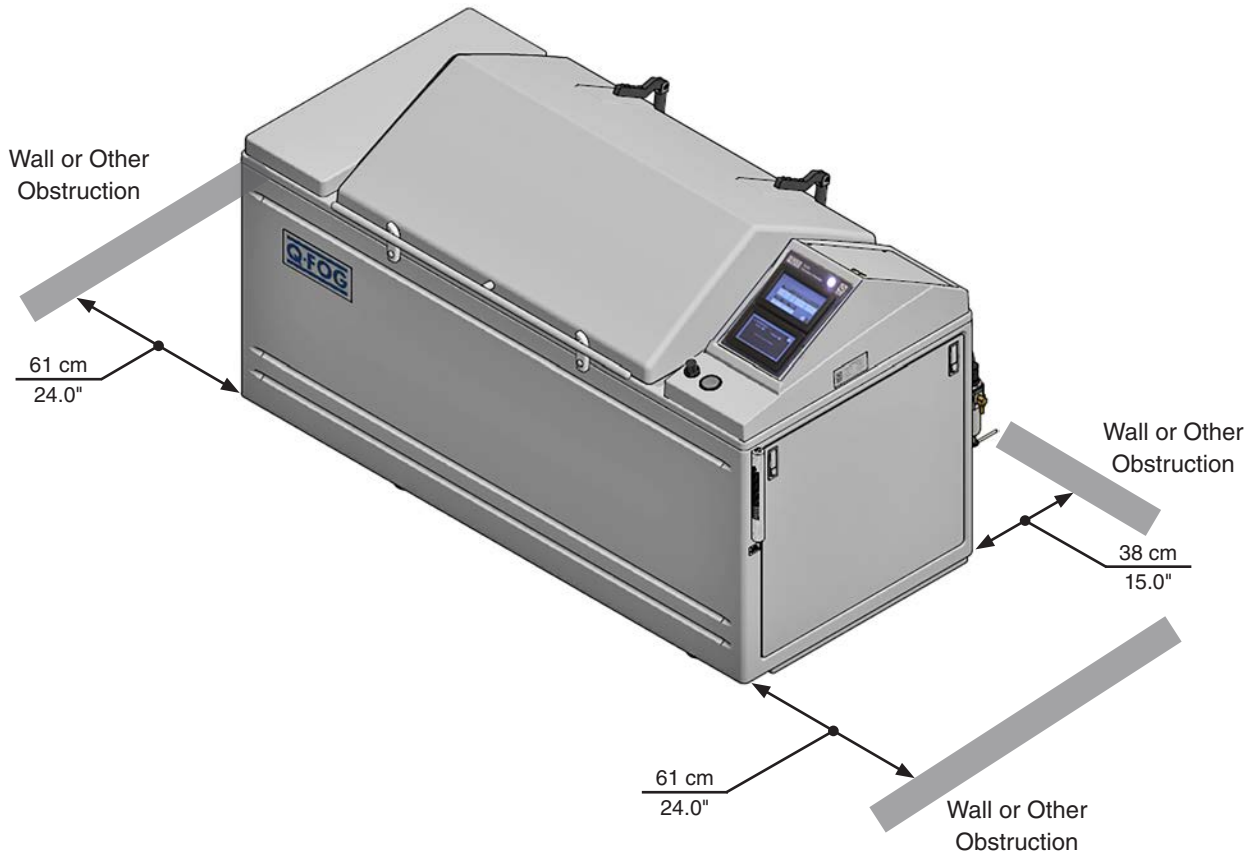

Figure 5.3: Q-FOG installation space requirements.
- The Q-FOG should be installed away from walls or other obstructions by the minimum distances shown in Figure 5.3.